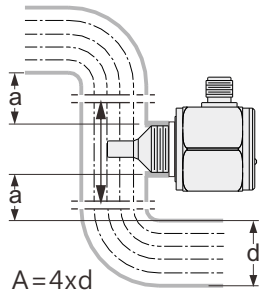

Fig. 1
- (1). Please assure the minimum distance to the tube bends and intersections greater than four times of pipe diameter. (See Fig. 1)